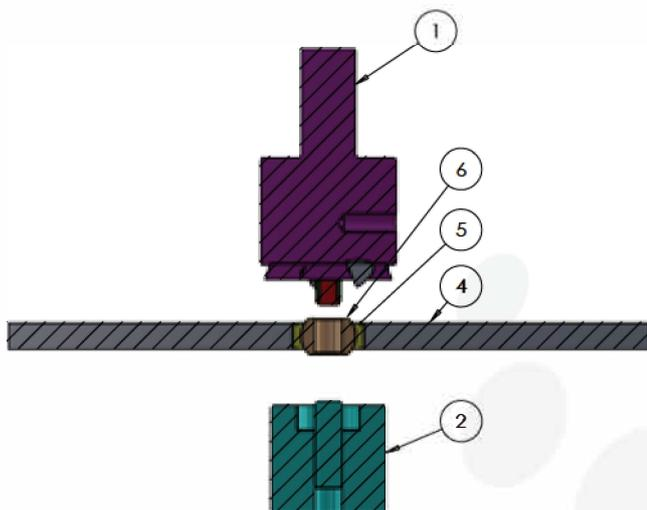
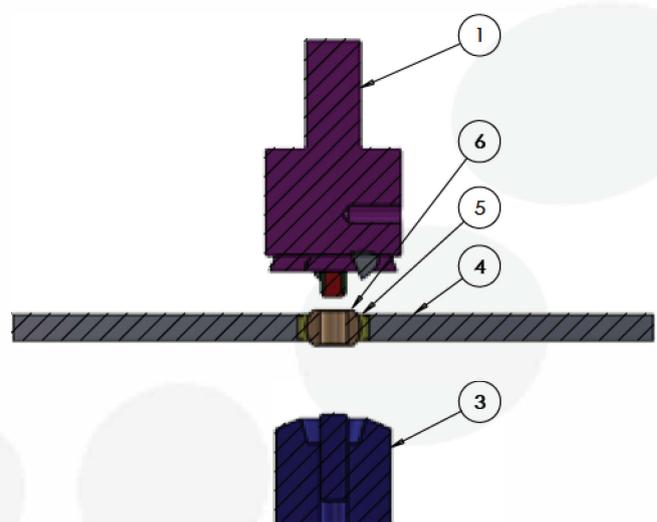

Figure 1
Figure 2
- 1) Position part (sub-assembly - bearing & housing) on the flat surfaced locating fixture (2), FIG. 1 in bearing bore.
- 2) With part resting on locating fixture slowly lower the spindle - ensuring roller fixture bushing is piloted into the bearing bore (6).
- 4) Start the spindle and lower the tri roller onto the bearing. Apply light pressure for initial revolutions to allow rollers to centre in bearing groove (5).
- 9) Turn sub-assembly over and repeat steps 1 thru 7 to complete swaging on opposite side, ensuring angled (conical) surface fixture (3) is used, FIG. 2 for this operation.